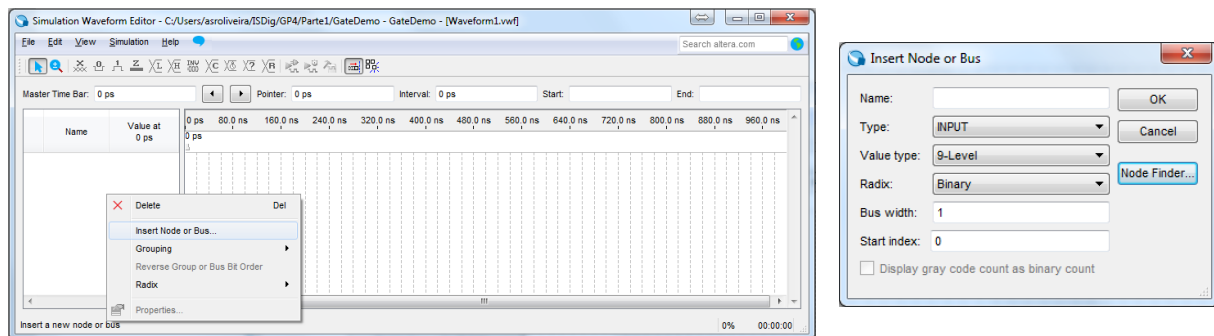

Figure 17 - Simulator window before specifying the input and output signals to be used in the simulation.
10. After pressing “OK” the next window should open, where the signals to be used in the simulation should be indicated (Figure 17).
11. Through the “Edit→Insert→Insert Node or Bus” menu, then pressing the “Node Finder” and “List” buttons, select all input and output ports of the circuit (Figures 17 and 18).